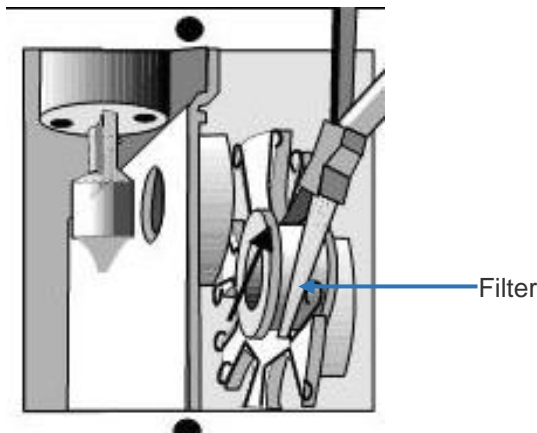

Figure 179: Removing or Inserting a Filter in the Filter Wheel
2. The filters are mounted on the filter wheel as shown in Figure 179.